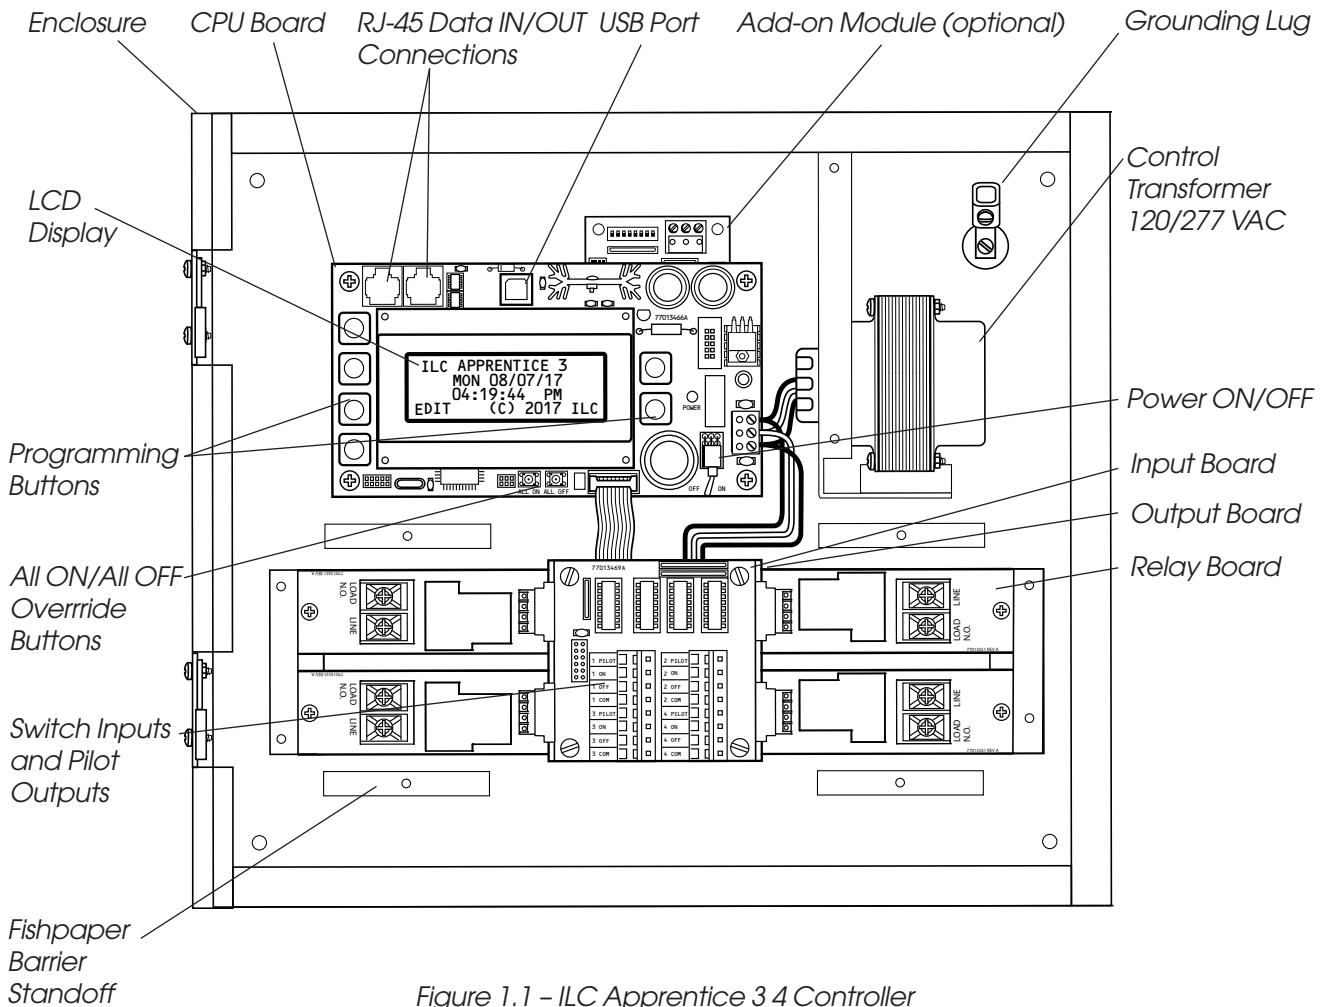

Figure 1.1 – ILC Apprentice 3 4 Controller
The major components making up the controller are: (See Figure 1.1.)
1.1.1 Enclosure - The enclosure is rated NEMA 1. Enclosures are available in 4 sizes to accommodate 4, 8, 16 or 32 inputs, outputs, and lighting relays. See (Table 1-1.) The ILC Apprentice 3 is shipped to the job-site as a complete assembly. (See Figure 1-1, which illustrates a ILC Apprentice 3 4.)